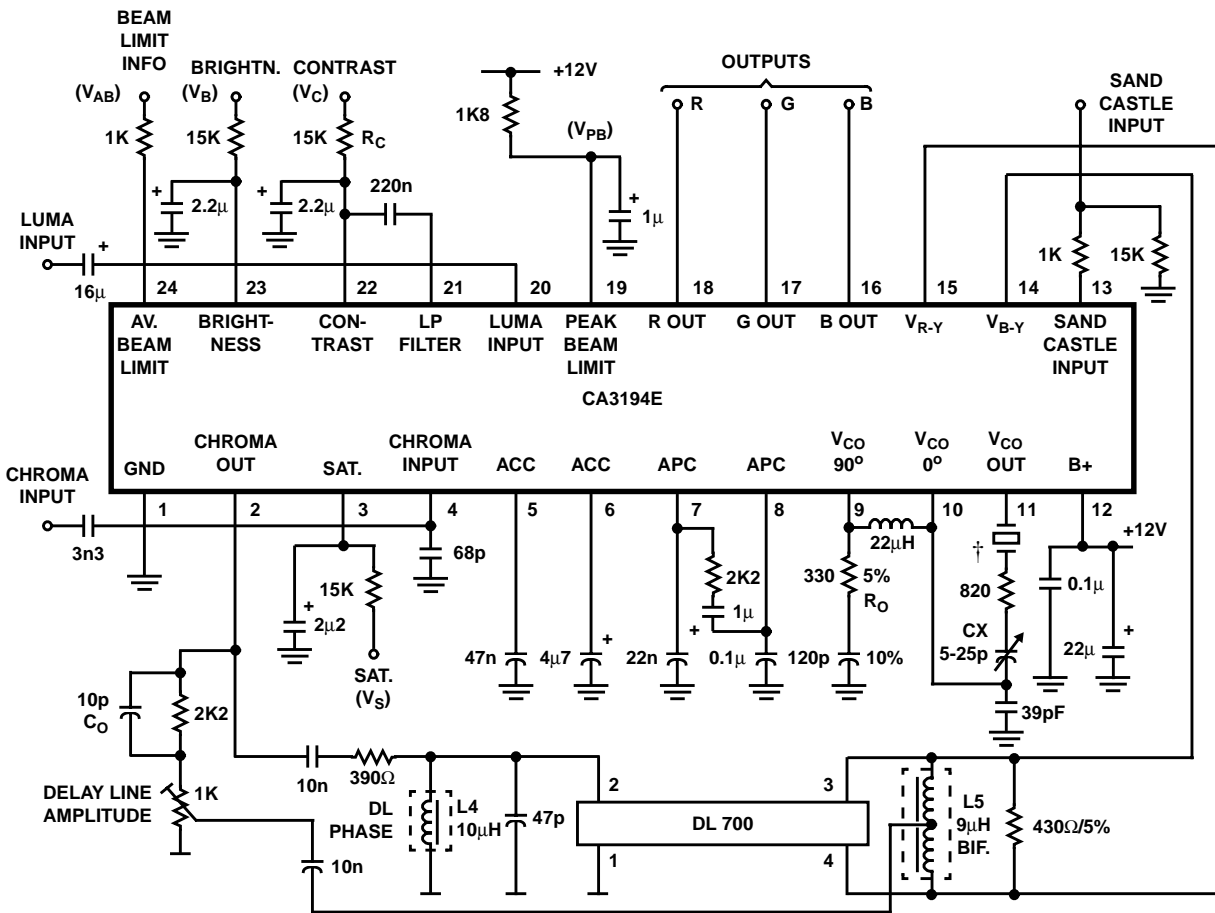

FIGURE 19. TEST CIRCUIT
**Electrical Specifications**  $T_A = +25^{\circ}\text{C}$ ,  $V_{CC} = 12\text{V}$ ,  $V_S = 2.85\text{V}$ ,  $V_C = 2.85\text{V}$ ,  $V_{AB} = V_{PB} = V_{CC}$ ,  $V_B$  adjusted for  $V_{18} = 6.3\text{V}$ ,  $C_X$  adjusted for  $F_{OSC} = 4.43361875\text{MHz}$ , Sandcastle:  $V_{BG} = 8.0\text{V}$ ,  $V_{BLANK} = 3.5\text{V}$  - Burst Gate centered on Burst. These conditions exist except as otherwise noted. See Figure 19 for test circuit
**Electrical Specifications**  $T_A = +25^\circ\text{C}$ ,  $V_{CC} = 12\text{V}$ ,  $V_S = 2.85\text{V}$ ,  $V_C = 2.85\text{V}$ ,  $V_{AB} = V_{PB} = V_{CC}$ ,  $V_B$  adjusted for  $V_{18} = 6.3\text{V}$ ,  $C_X$  adjusted for  $f_{OSC} = 4.43361875\text{MHz}$ , Sandcastle:  $V_{BG} = 8.0\text{V}$ ,  $V_{BLANK} = 3.5\text{V}$  - Burst Gate centered on Burst. These conditions exist except as otherwise noted. See Figure 19 for test circuit **(Continued)**